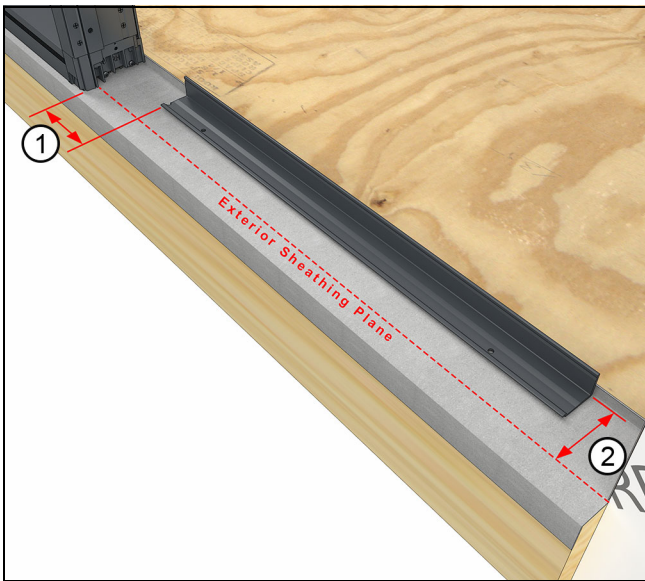

Figure 43
4. With the first door installed, measure 4 7/16" (113) from the jamb of the first door. Make a mark and install the second sill support at this location, 3 5/16" (84) from the exterior sheathing line. See Figure 43.